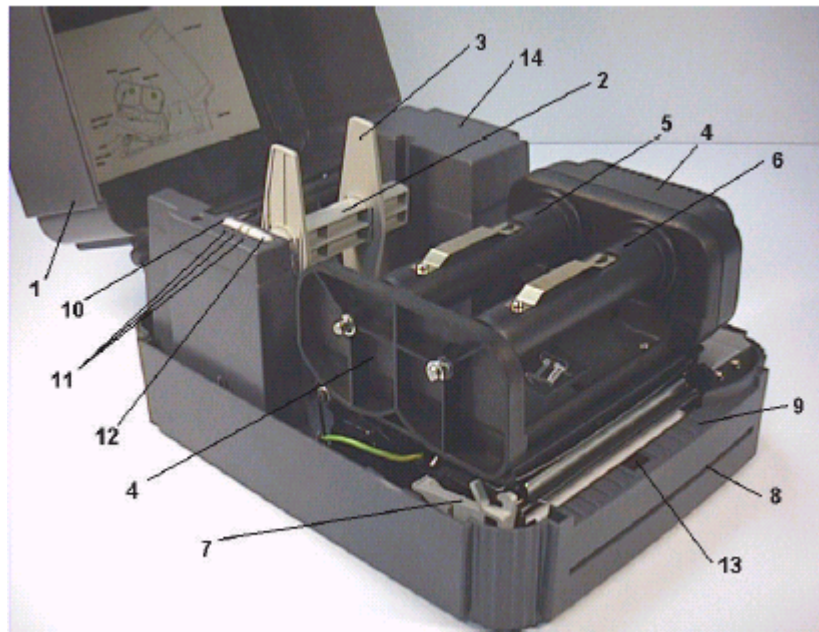

Figure 2. Interior view
- 1.3.2. *Fig.2.* **LabelStation** Printer Internal View